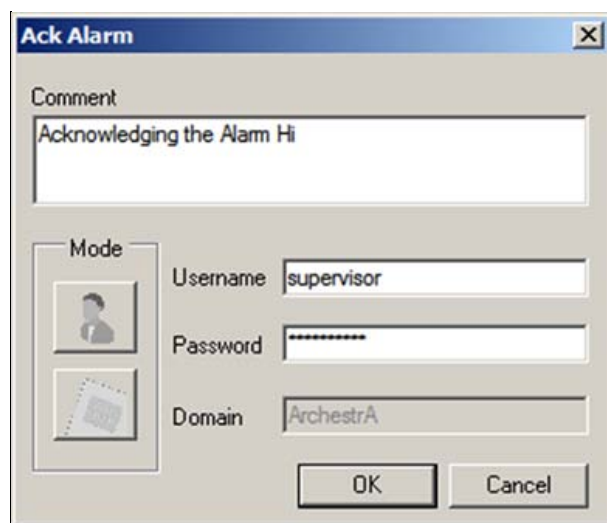

FIGURE 14: ACK ALARM REQUIREMENT
22. Right-click on the Hi Alarm to Acknowledge it. The Ack Alarm popup appears. Type any comments and provide the username\password (Figure 14 below).